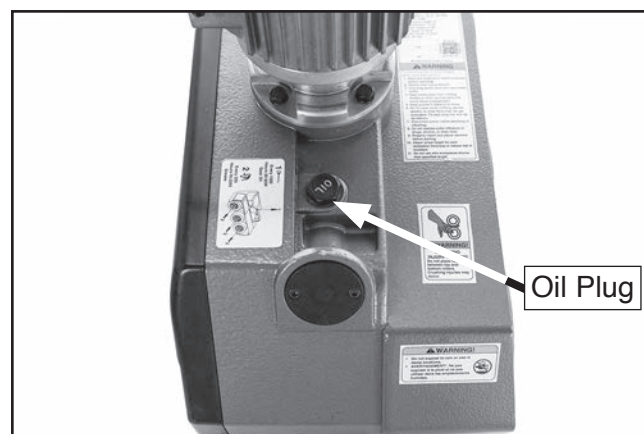

Figure 16. Oil plug location.
1. Rotate machine so oil plug is upright (see **Figure 16**).
2. Remove gearbox oil plug (see **Figure 16**).